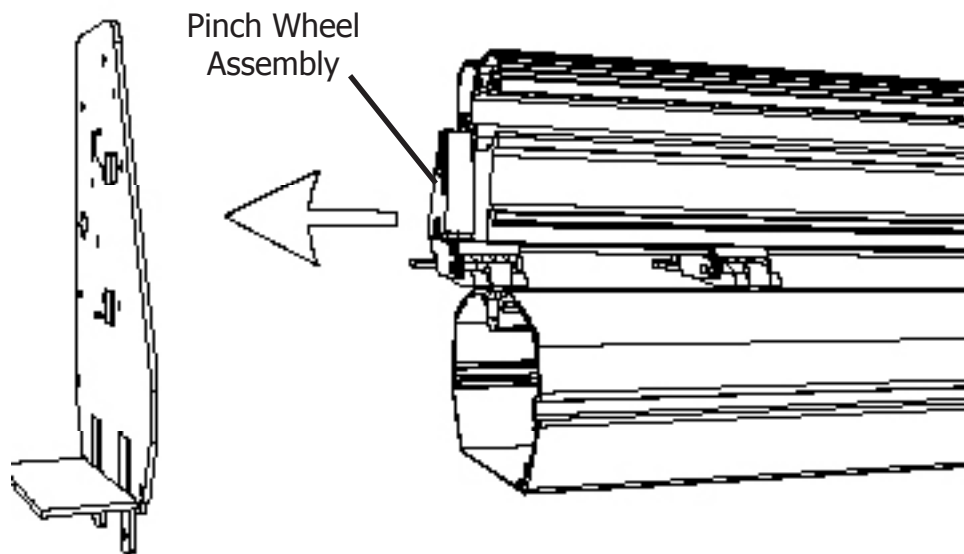

Fig. 7 - Left end plate removed
10) With the left end plate removed, lift the traverse extrusion up, and slide the end pinch wheel off of the machine. See Fig. 7